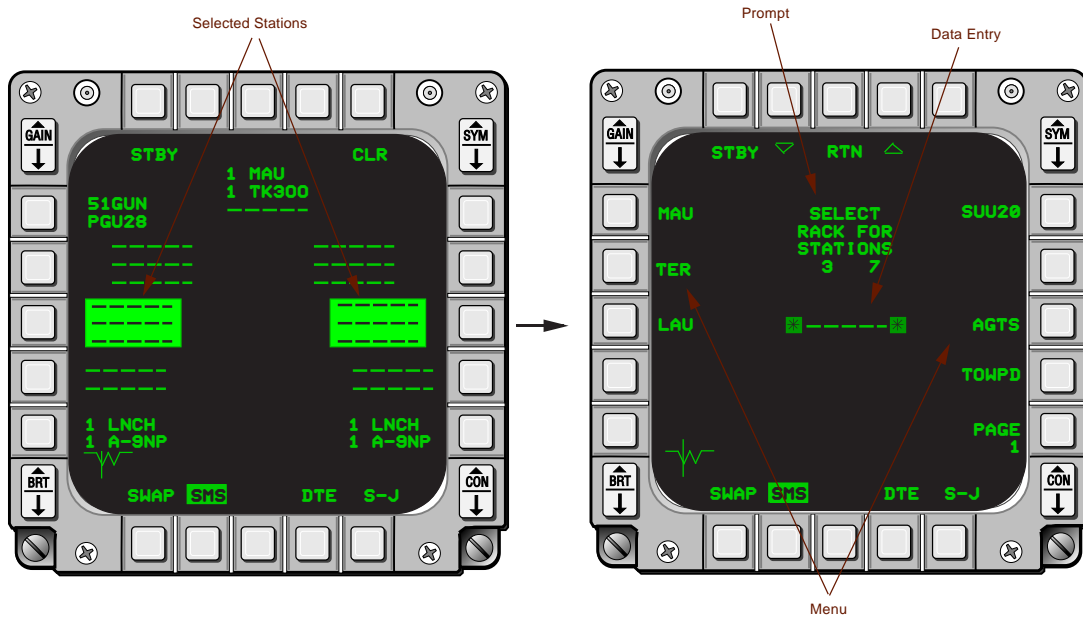

Figure 1-34 Accessing the SMS MDDE Page
**Menu-Driven Data Entry Page.** The MDDE page is displayed when the pilot wants to manually load or change the store on a loaded station. It is displayed when a station is selected on the inventory page and the change (CHNG) OSB 6 is selected (Figure 1-34). The pilot, led through the loading process by a series of prompts, can then load or change suspension equipment and weapon information for each Station selected.